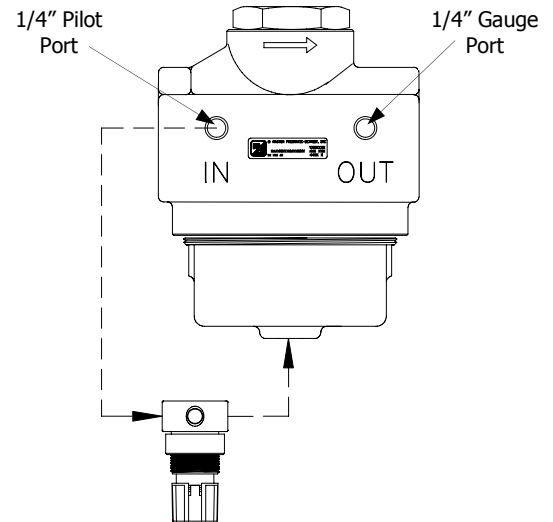

Figure 1.
8. The Control Regulator can be installed at a distance from the R200 Regulator for easier adjustment. The R200 Regulator has two pilot ports on front and back of inlet side of head. Connect inlet of Control Regulator to one of the pilot ports, and install pipe plug into the other. Connect outlet port of Control Regulator to port on bottom of R200 Dome. See Figure 1.